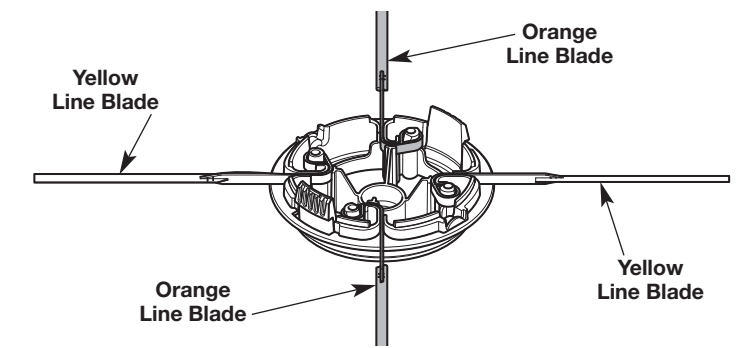

Fig. 32
6. Repeat step 5 until all four line blades are installed (two yellow and two orange). Always alternate between yellow and orange line blades (Fig. 32). Do not install two line blades of the same color next to each other.